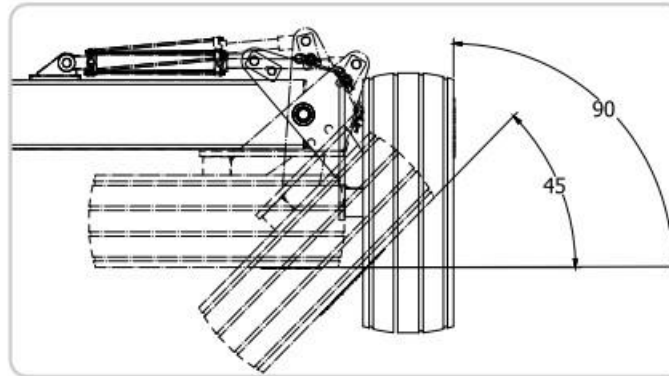

FIGURE 4
7. From the cab of the tractor, rotate pivot wheels to 45° (Green hydraulic remote) (fig. 4).